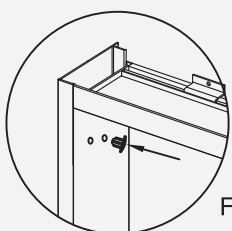
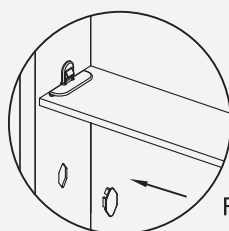

Fig 18
Fig 19
3. Fill the remaining holes with hole plugs ③ (Fig 18). Fill the rest of the shelf clip holes with decorative covers ⑬ (Fig 19).